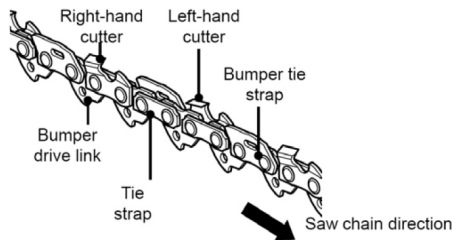

Fig. 28
1). Have the saw chain (6) sharpened professionally at an authorised service centre or sharpen the chain yourself by using a suitable sharpening kit. Also observe the sharpening instructions supplied with the sharpening kit.
2). The height difference between the tooth and the ridge is the cutting depth. When sharpening the saw chain (6) you have to consider the following points. (See Fig. 28)